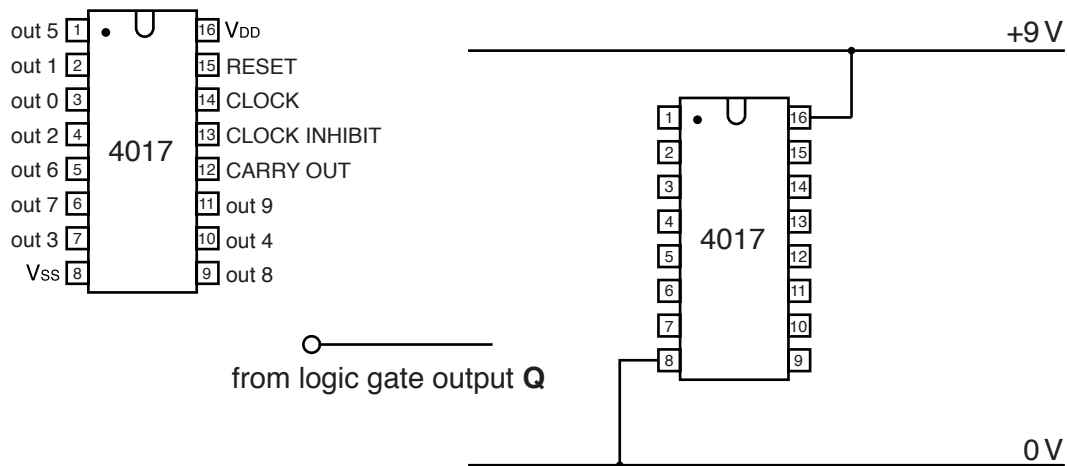

Fig. 17
- (ii) Fig. 17 shows the pin diagram of the counter IC that will be used in the dice alongside the circuit diagram.
Add the following connections to the circuit diagram in Fig. 17.